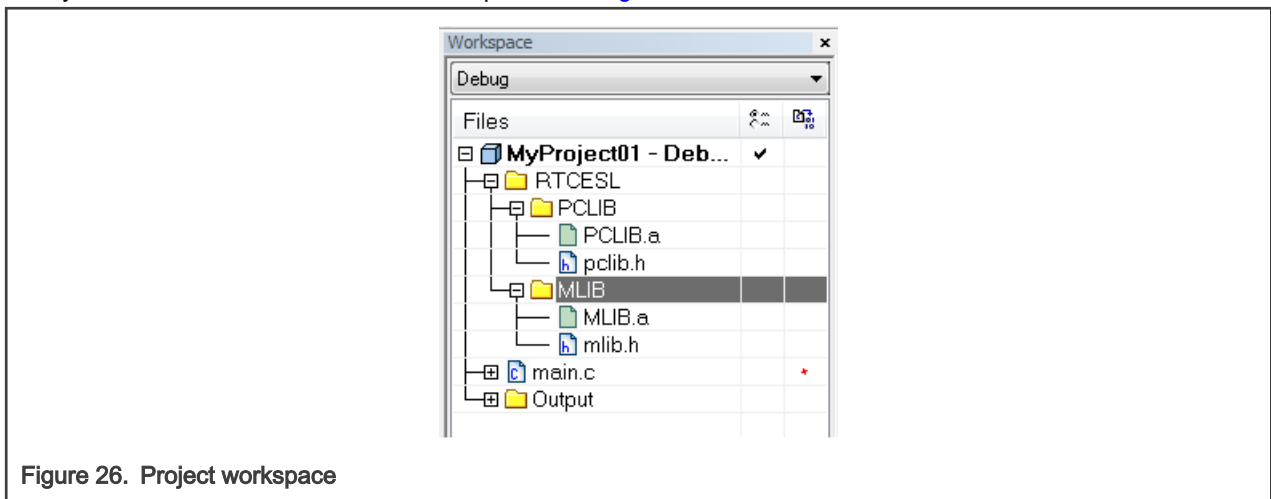

Figure 26. Project workspace
4. Click on the newly created node MLIB, and go to the main menu Project > Add Files... See Figure 26.
- Now you will see the files added in the workspace. See Figure 26.